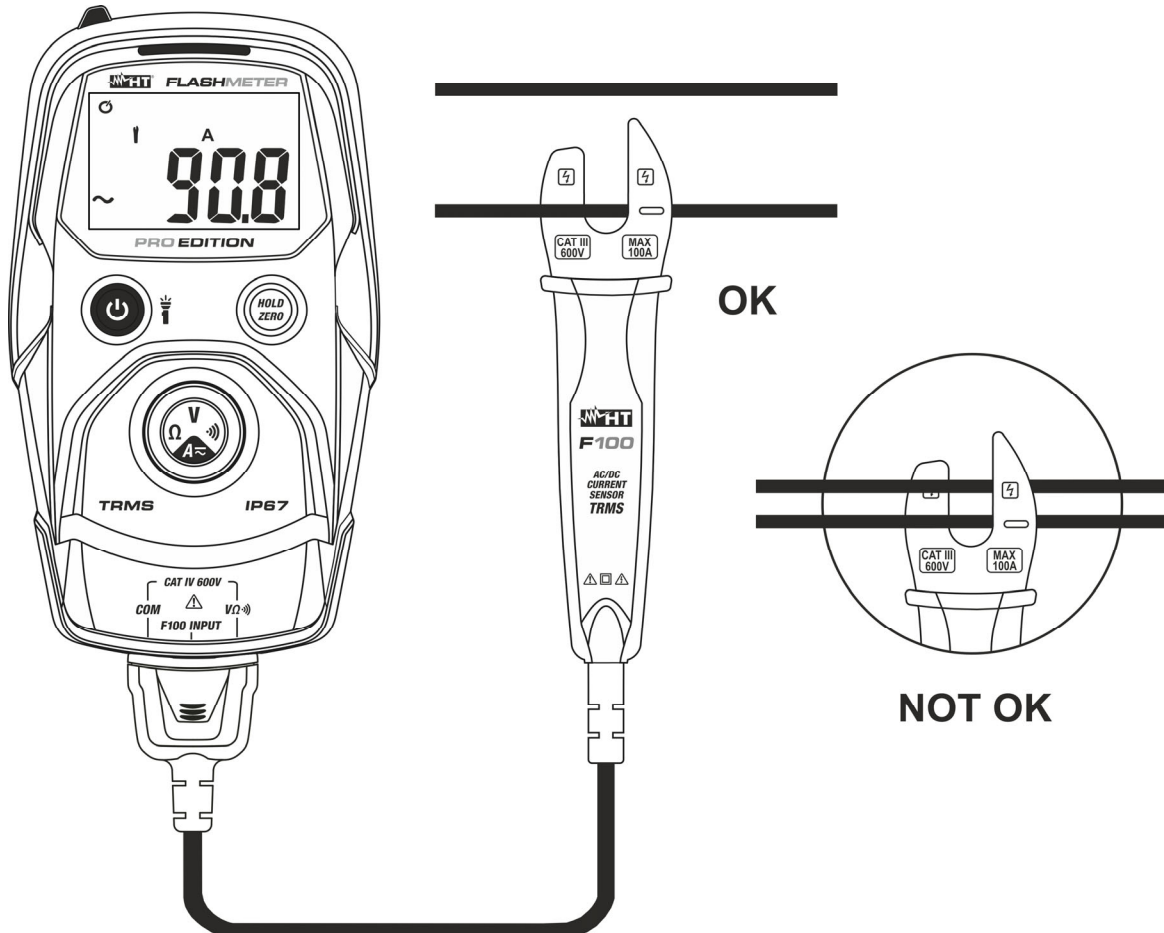

Fig. 7: Use of the instrument for AC/DC Current measurement
4. Connect the F100 clamp on the cable under test (see Fig. 7) paying attention to the arrow " $\rightarrow$ " symbol inside the toroid to indicate the positive direction of the current. Positioning the cable in the center of the clamp to obtain an accurate measurement result. The current value is shown on the display
5. When symbol "-" appears on the instrument's display, it means that current has the opposite direction with respect to the connection of Fig. 7